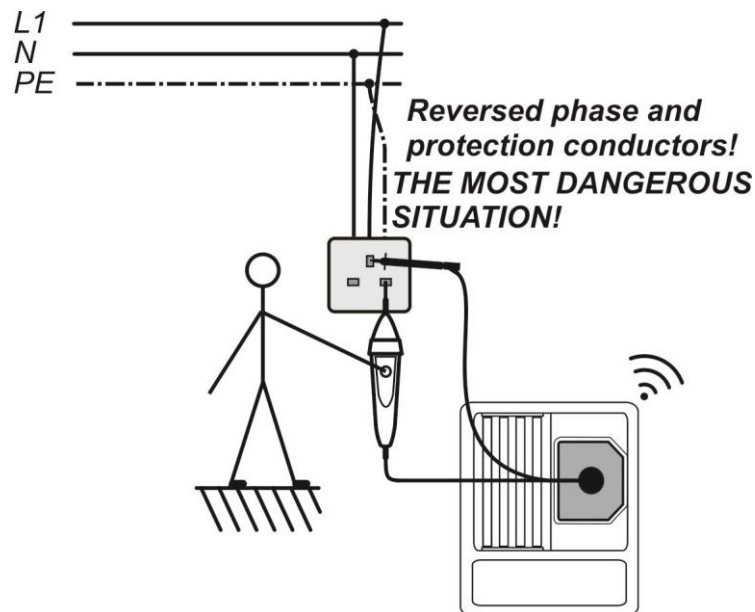
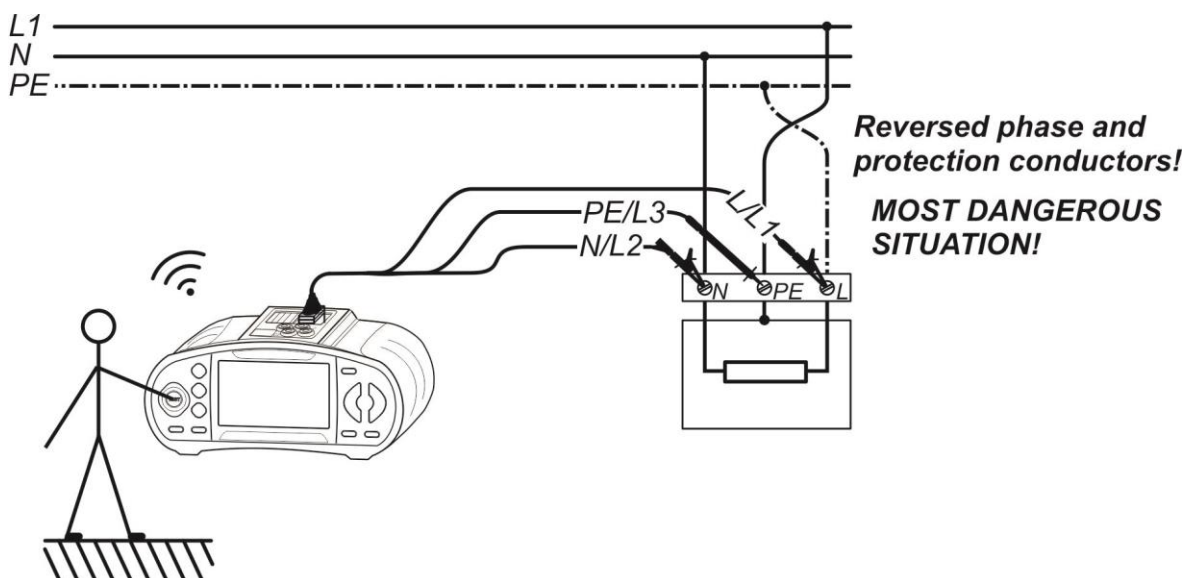

Figure 5.48: Reversed L and PE conductors (tip commander)
Figure 5.49: Reversed L and PE conductors (application of 3-wire test lead)
- ❑ **Connect** test leads to the item to be tested ( see *Figure 5.48* and *Figure 5.49*)